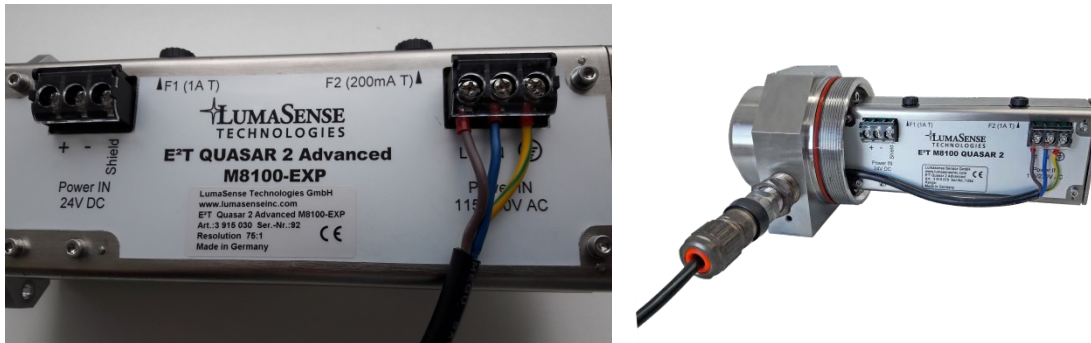

Figure 3: QUASAR 2/QUASAR 2 Advanced EIO-Package (left side view)
All electrical connections are made through terminal strips located on the terminal strips on the power input side of the housing (wire range 14 – 22 AWG (0.4mm² - 2mm²)). Connect wires as shown in Figure 3. Wires should be routed to the unit through the 3/4" NPT threaded conduit port located on the left side of the housing. Connect AC Power 115/230 VAC 50/60 Hz or DC Power 24 VDC, as indicated. The appropriate packing glands should be used per EXP requirements.
3. Connect power as described (See Fig. 3).
All power and signal connections are made on infrared electro-optical package inside the explosion-proof enclosure. Power is connected to left side of the instrument. Output signals are connected to terminal on the right side of the instrument (See Figures 3 and 4).